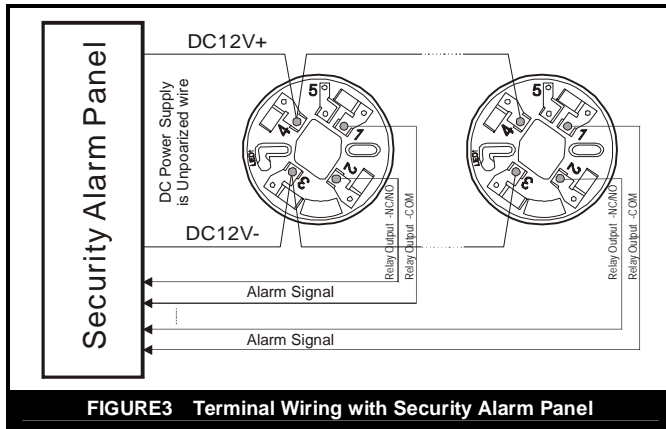

FIGURE3 Terminal Wiring with Security Alarm Panel
5. The detector can be connected with Security alarm panel as Figure3. Relay output signal can be changed from Normal Close (NC) to Normal Open (NO) by Jump JP1 on the PCB board.